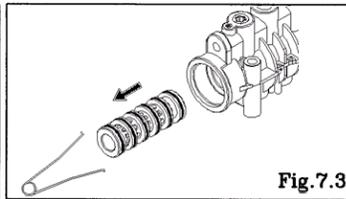

Fig. 7.3
- Remove the sleeve using the sleeve remover (special tool: Part number 713148). [Fig. 7.3]